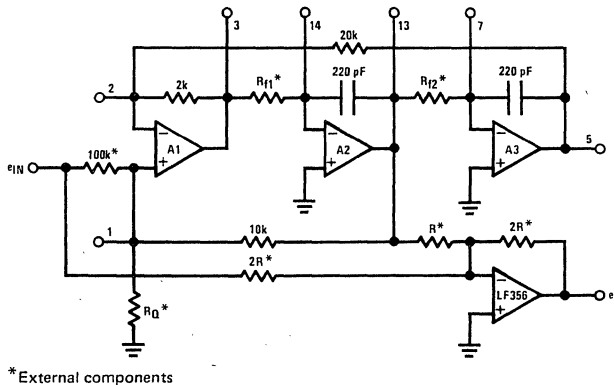

FIGURE 16. All Pass
g) All pass (Figure 16) transfer function equations are: